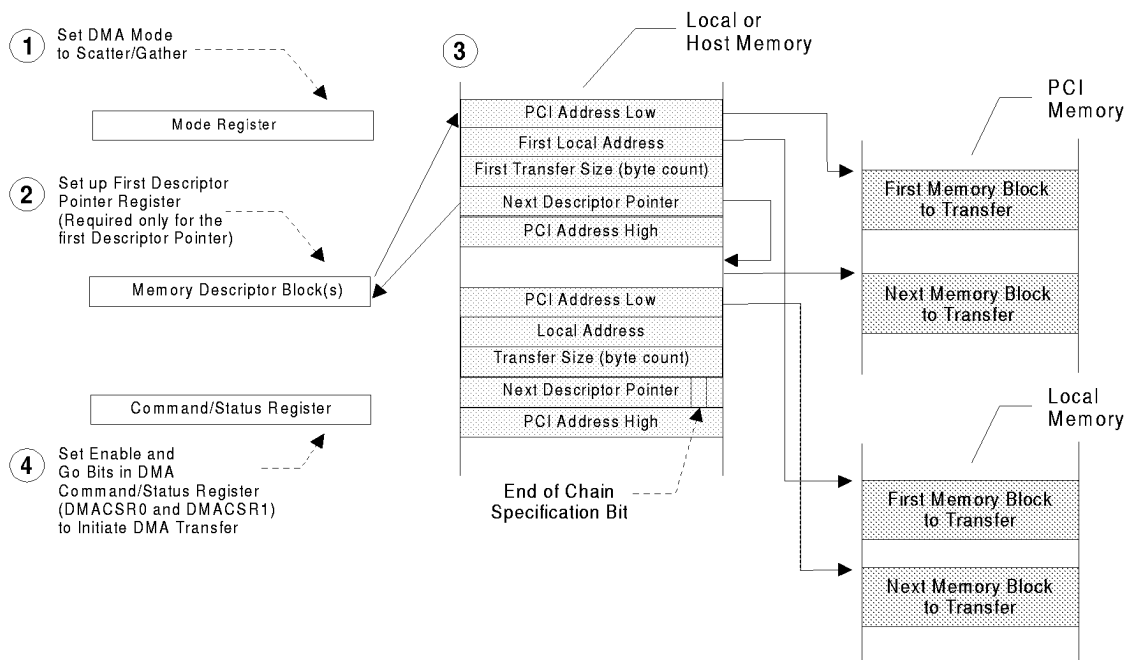

Figure 5-17. Scatter/Gather DMA Mode Descriptor Initialization [DAC PCI Address (DMAMODE0[18], DMAMODE1[18]) Descriptor Dependent]
- DMADAC0 and/or DMADAC1 contain(s) an 0x00000000 value. DMAMODE0[18] and/or DMAMODE1[18] is set to 1. The PCI 9054 performs a SAC five-Lword descriptor block load from PCI memory and DMA transfer with PCI DAC on the PCI Bus. (Refer to Figure 5-17.)
- DMADAC0 and/or DMADAC1 contain(s) a non-zero value. DMAMODE0[18] and/or DMAMODE1[18] is set to 1. The PCI 9054 performs a SAC five-Lword descriptor block load from PCI memory and DMA transfer with DAC on the PCI Bus. The fifth descriptor overwrites the value of the DMADAC0 and/or DMADAC1 register. (Refer to Figure 5-17.)